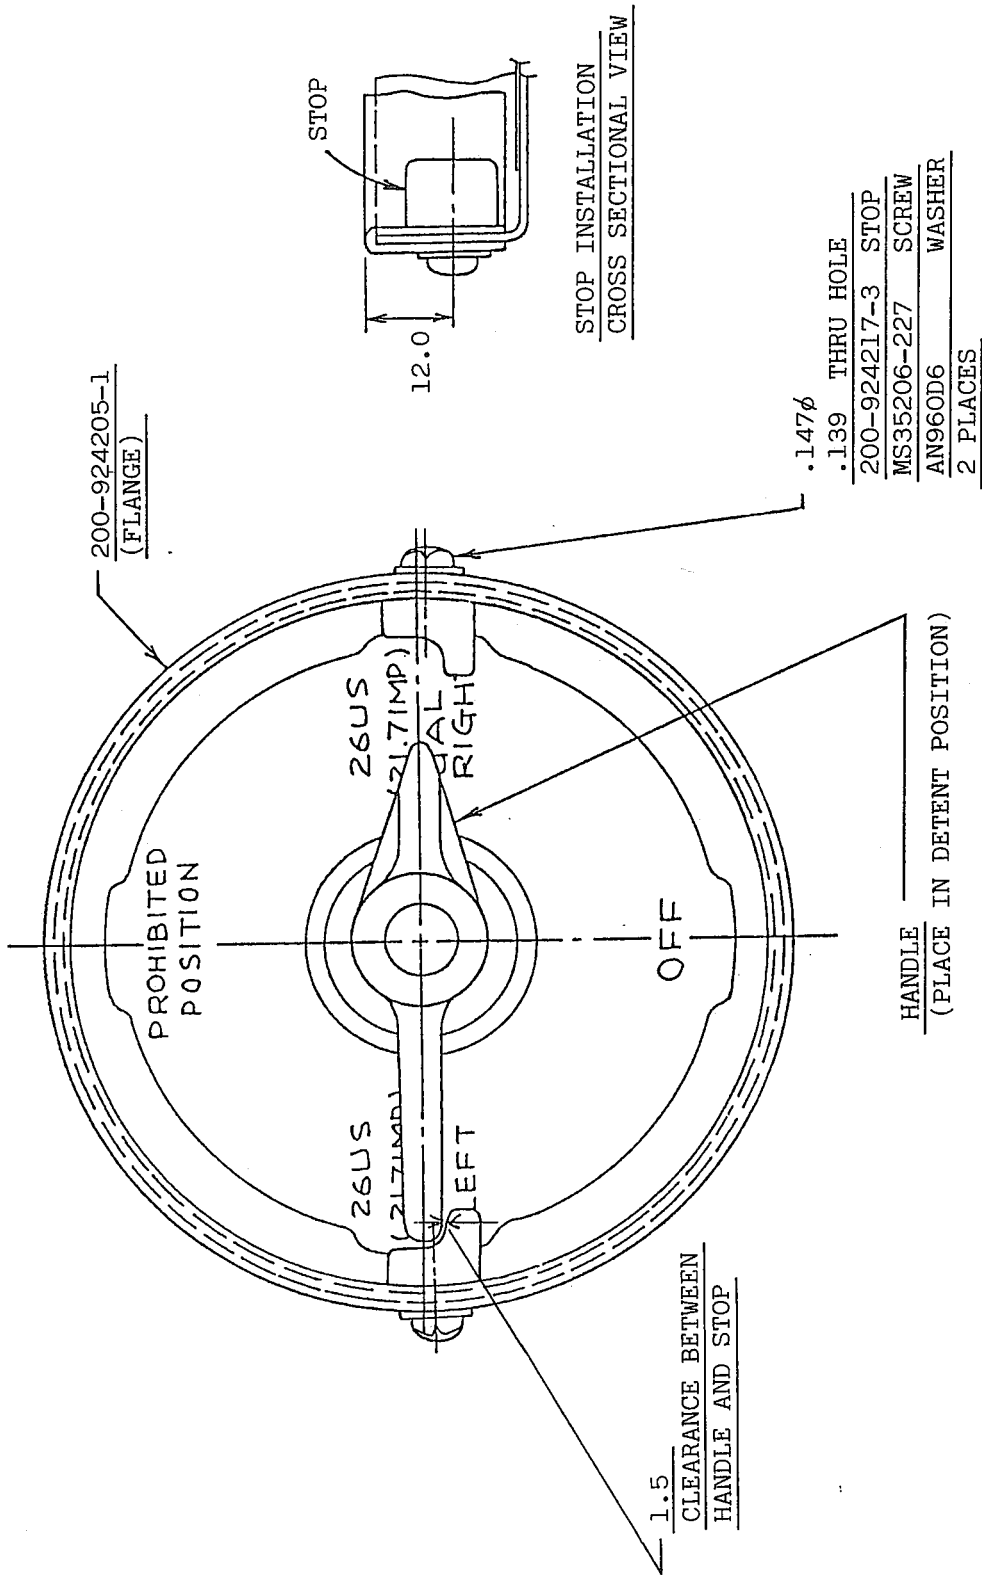

FIGURE 1 INSTALLATION OF STOP
- (1) Drill two (2) stop attaching holes as shown on the attached figure 1.
- (2) Make a 12.0 mm (concentric) dia cutout in rubber of inside flange only.
- (3) Install stops with screws and washers as shown on the figure 1.
- (4) Make a log book entry indicating completion of this bulletin.